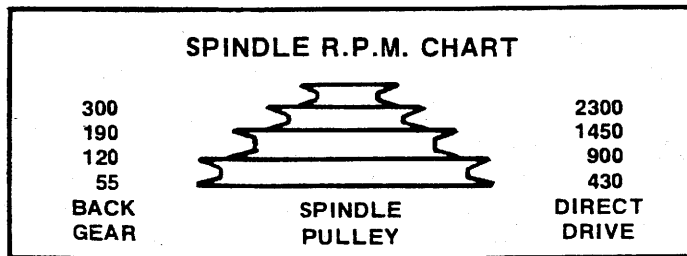

FIGURE 9
- Shift belt to position for speed desired, as indicated on spindle speed chart (Figure 9).